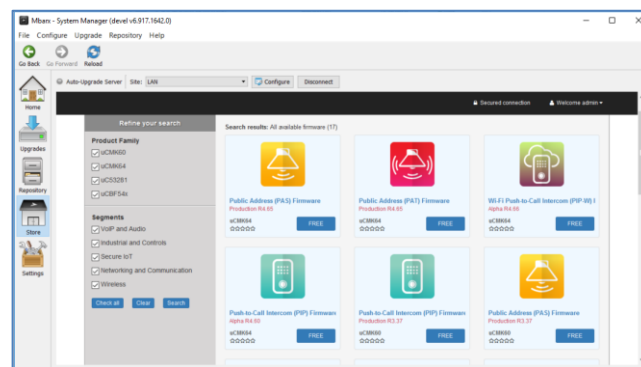

Figure 6 - System Manager Store with Available Firmware Downloads
- Figure 6 - System Manager Store with Available Firmware Downloads6